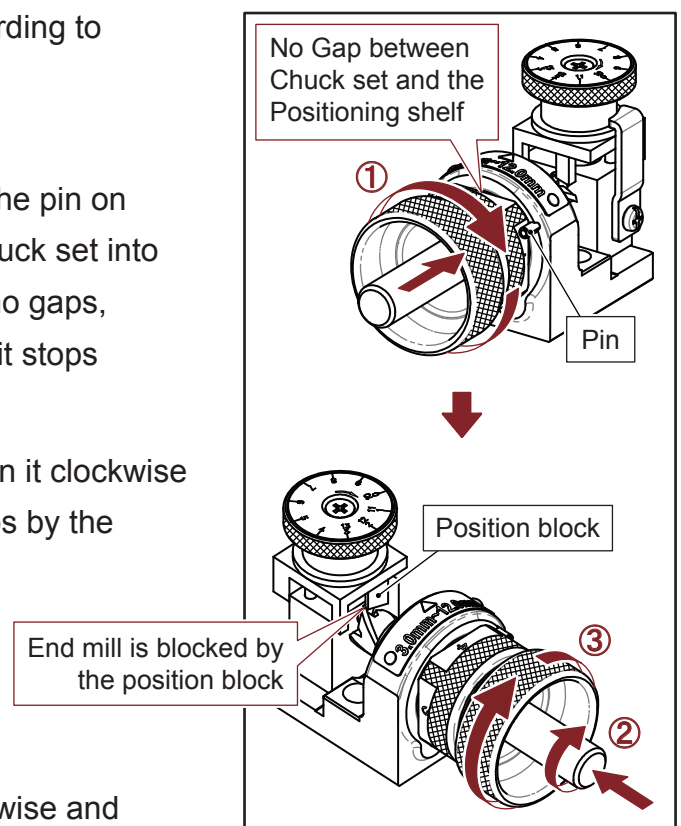

Fig. 5-5
3) Align Slot No.1 of the clamping nut to the pin on the positioning shelf, then insert the chuck set into the positioning shelf and fit them with no gaps, then turn the chuck set clockwise until it stops by the pin. (Fig. 5-5 step ①)
4) Push end mill to the end and slowly turn it clockwise until end mill's longer cutting edge stops by the position block. (Fig. 5-5 step ②)
5) Turn the collet holder clockwise and tighten the chuck set to secure end mill. (Fig. 5-5 step ③)